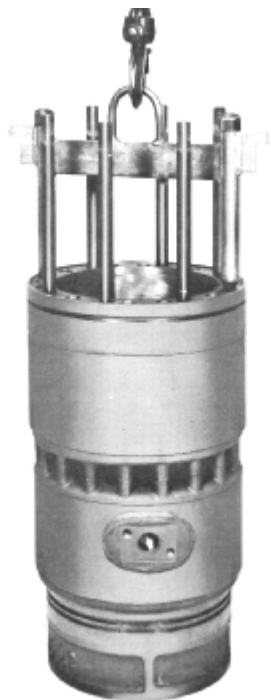

Fig. 5-18 - Liner Installation Using Liner Lifter
29. Apply the liner lifter, Fig. 5-18, over the liner studs and secure with the stud nuts.